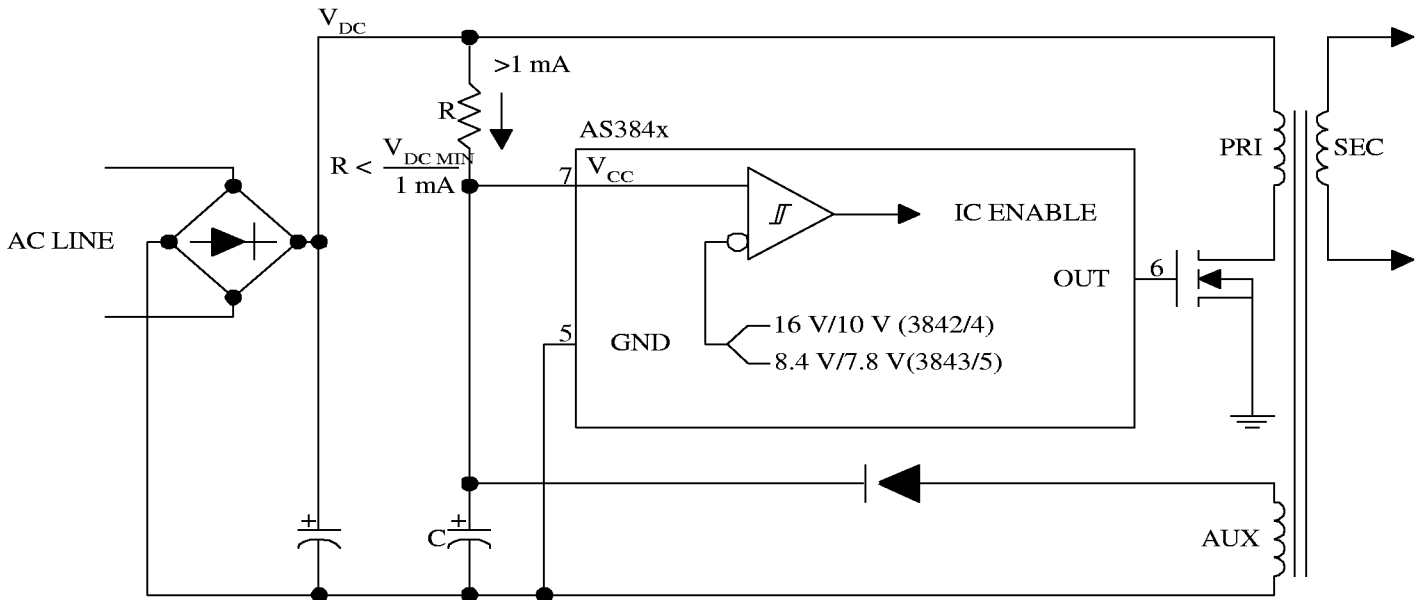

Figure 14. Bootstrap Circuit
The low quiescent current standby mode of the AS3842 allows "bootstrapping" ---a technique used in off-line converters to start the IC from the rectified AC line voltage initially, after which power to the IC is provided by an auxiliary winding off the power supply's main transformer. Figure 14 shows a typical bootstrap circuit where capacitor (C) is charged via resistor (R) from the rectified AC line. When the voltage on the capacitor (V_{CC}) reaches the upper UVLO threshold, the IC (and hence, the power supply) turns on the voltage on C begins to quickly discharge due to the increased operating current. During this time, the auxiliary winding begins to supply the current necessary to run the IC. The capacitor must be sufficiently large to maintain a voltage greater than the lower UVLO threshold during start up. The value of R must be selected to provide greater than 1 mA of current at the minimum DC bus voltage ($R < V_{DCmin}/1 \text{ mA}$).